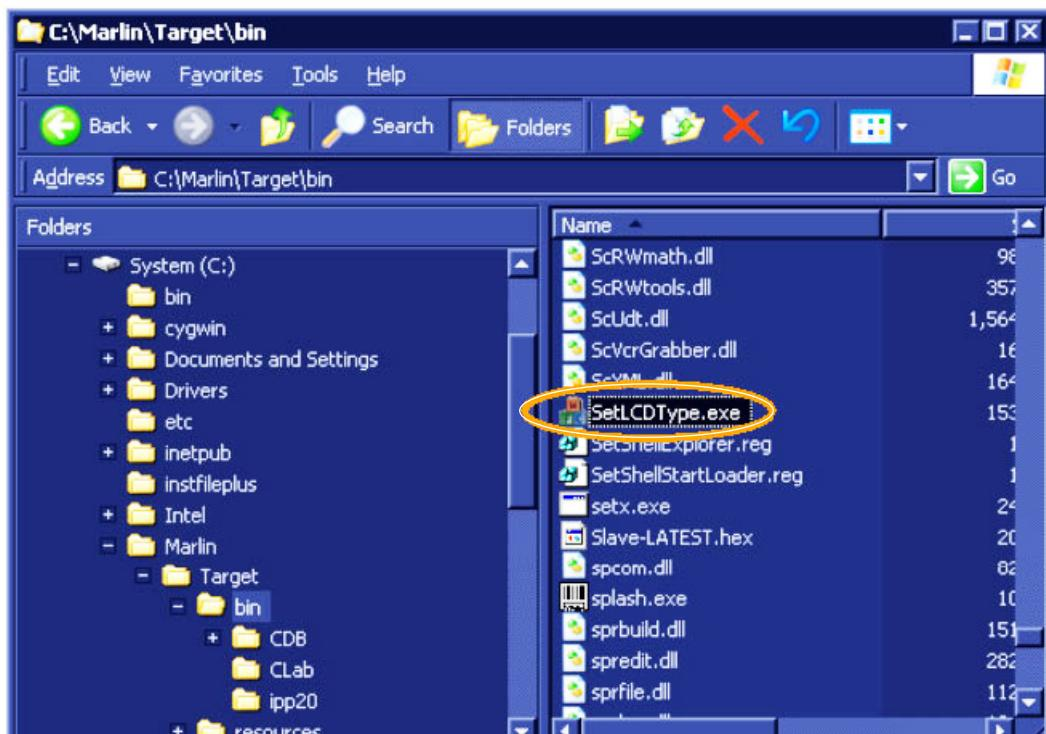

Figure 8-46 Selecting SetLCDType Utility
- 9) From Windows Explorer, go to the directory: C:\Marlin\Target\bin (see Figure 8-46 below).